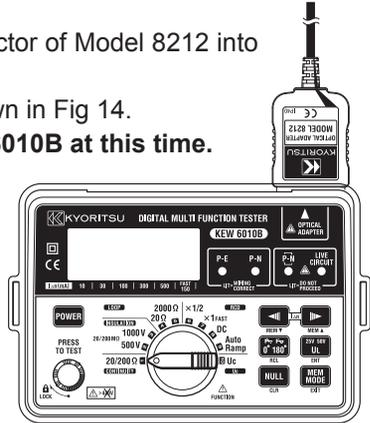

Fig 14
- (1) Firmly insert the D-SUB 9Pin female connector of Model 8212 into the socket (D-SUB 9Pin male) of PC.
- (2) Insert Model 8212 into KEW 6010B as shown in Fig 14.
- (3) Power on KEW 6010B. (Any function is OK.)
- (4) Start special software "KEW Report" on your PC and set the communication port.